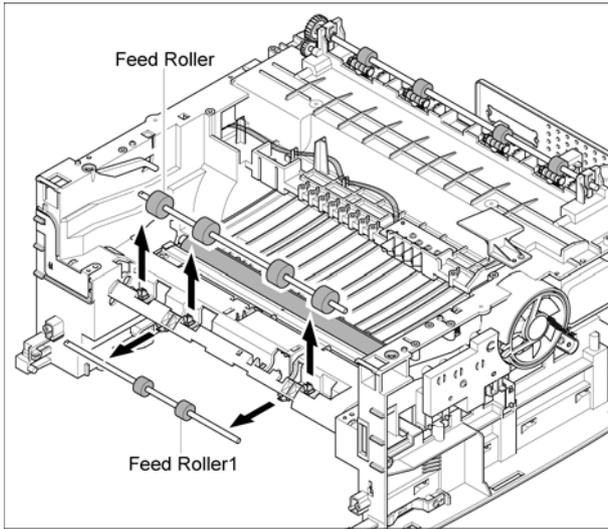

Figure 6
7. Remove the Feed Roller and Feed Roller 1, Figure 6.